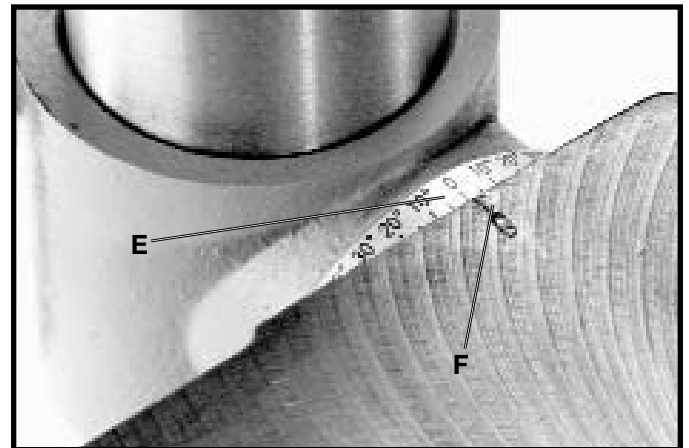

Fig. 23
4. A tilt scale (E) Fig. 23, is provided on the table bracket casting to indicate the degree of tilt. A witness line and zero mark (F) are also provided on the table to line up with the scale (E).